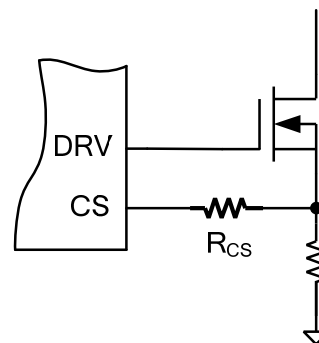

Figure 7: External Resistor for Sampling Time Customization
The FB sampling time is also customizable with different resistor values connected to CS (see Figure 7). Please refer to EC table for details.
The maximum switching frequency should be limited by the sampling point. Figure 7 and EC table show the relationship of R_{CS} and the sampling point. The secondary on time must be longer than the maximum $T_{FBS-Max}$. Calculate T_{S_ON} with Equation (15):